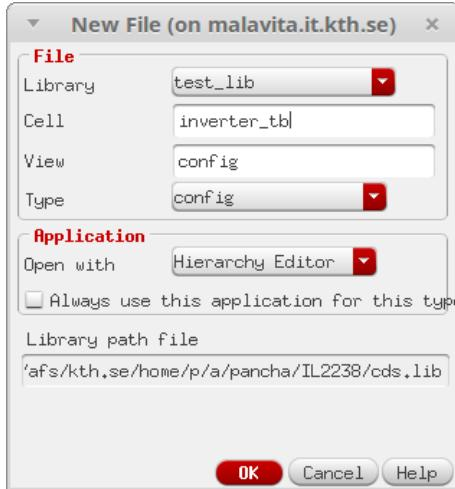

Figure 22: Creating a config view
1. Go to the Library Manager and select the "inverter\_tb" cell. Then go File→New Cell. Fill in the window that pops up as in Fig. 22.